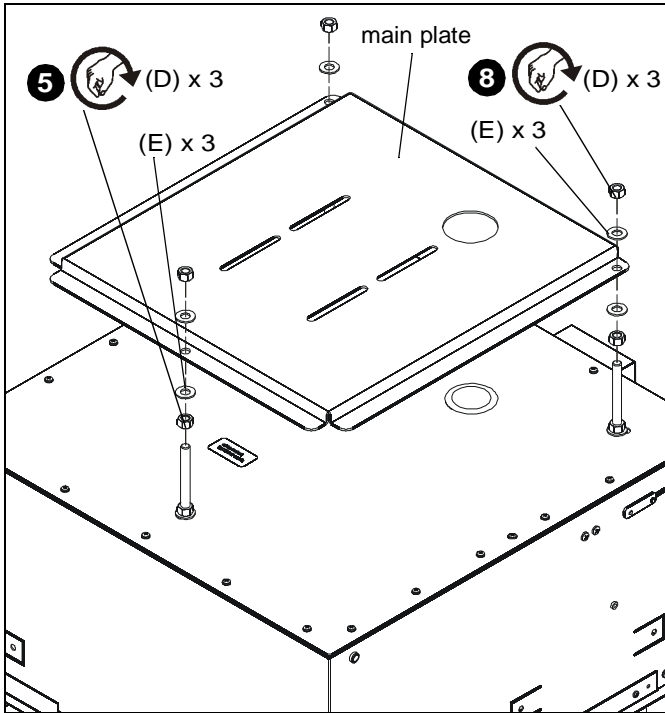

Figure 5
- Partially thread a 3/8-16" hex nut (D) onto each of three 3/8-16 x 3 1/2" hex head tap bolts (C). (See Figure 5)
- Place a 3/8" washer (E) over each hex nut. (See Figure 5)
- Place main plate over three bolts lining up the holes on the outside edge of the plate with the screws. (See Figure 5)
- Place another 3/8" washer (E) and 3/8-16" hex nut (D) over each bolt. (See Figure 5)